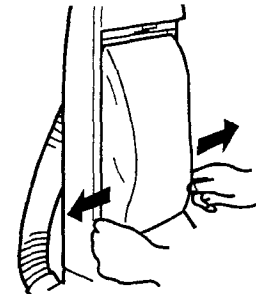

Fig. 17
- 4 Spread out the sides of the new bag. (Fig. 17)